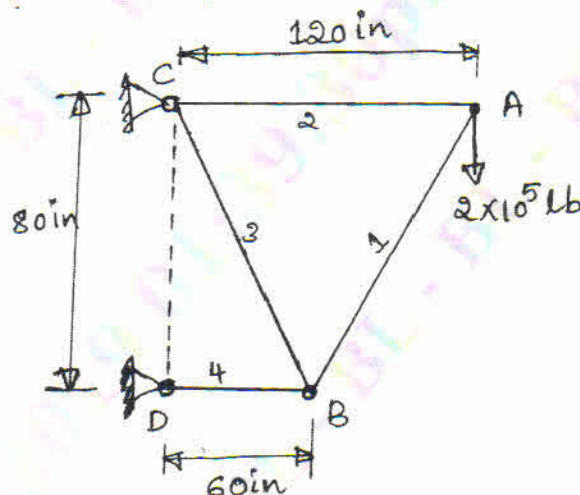

Fig Q10
- 10 The Four bar truss shown in Fig Q10 is subjected to vertical load of  $2 \times 10^5 \text{ lb}$  at joint 'A' as shown. Determine the cross sectional areas of the members (bars) such that the total weight of the truss is minimum and the vertical deflection of Joint 'A' is equal to 0.5 in. Assume the unit weight as  $0.01 \text{ lb/in}^3$  and the Young's modulus as  $20 \times 10^6 \text{ Psi}$ .